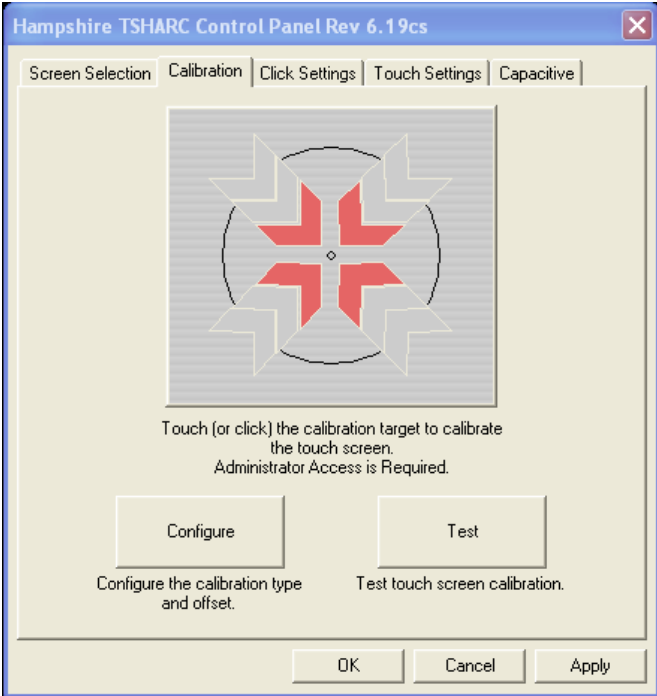
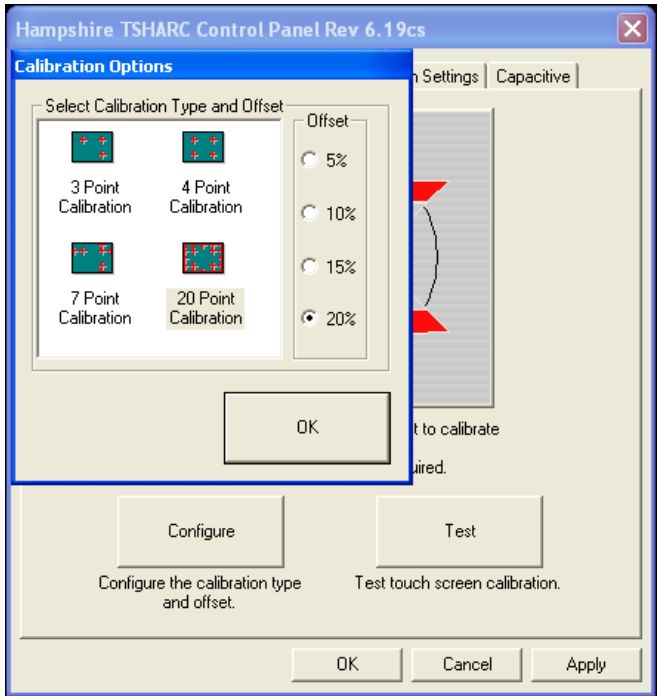

FIGURE 21. TSHARC Calibration Tab
FIGURE 22. Calibration Options
4. Click the “Configure” button and choose “7 Point Calibration”, set “Offset” to 20%; and Click “OK”. See FIGURE 21 and FIGURE 22.